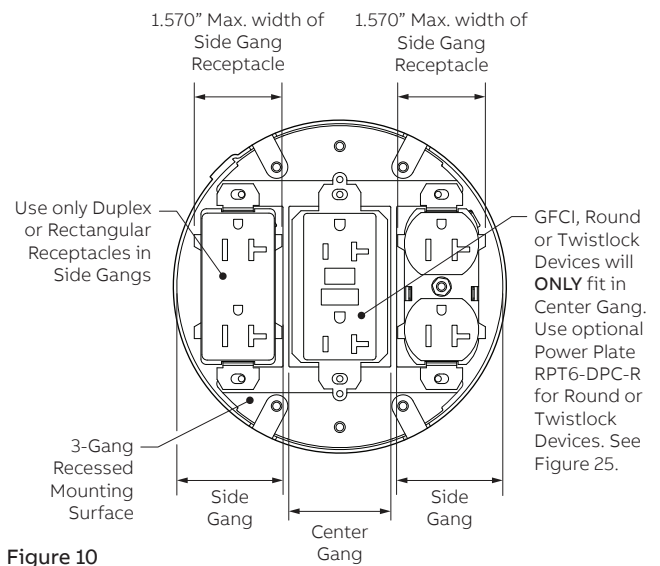

Figure 10
- 5.2.5 Place proper covers over device and secure with screws furnished with Device. If Duplex is used, place a Duplex Insert Plate over Device before attaching Cover. Screws must pass through holes in Device Plates, holes in Device and thread into tapped holes in 3-Gang Recessed Mounting Surface. (See Figures 10 and 13).